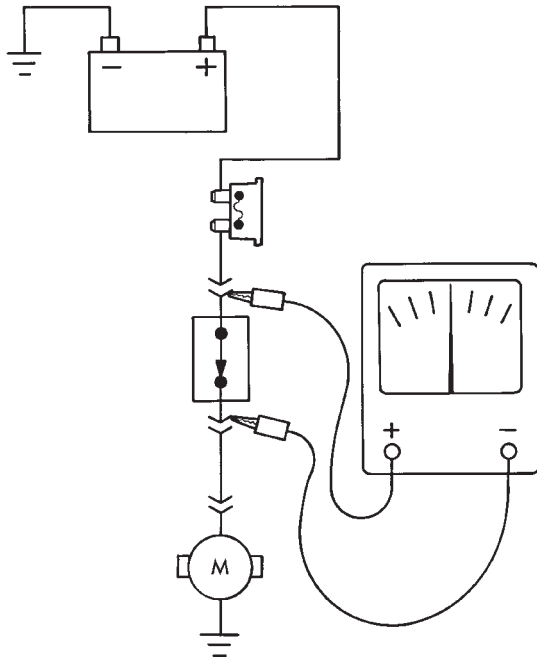

Fig. 10 Testing for Voltage Drop
- (1) Connect the positive lead of the voltmeter to the side of the circuit closest to the battery (Fig. 10).
- (2) Connect the other lead of the voltmeter to the other side of the switch or component.
- (3) Operate the item.
- (4) The voltmeter will show the difference in voltage between the two points.